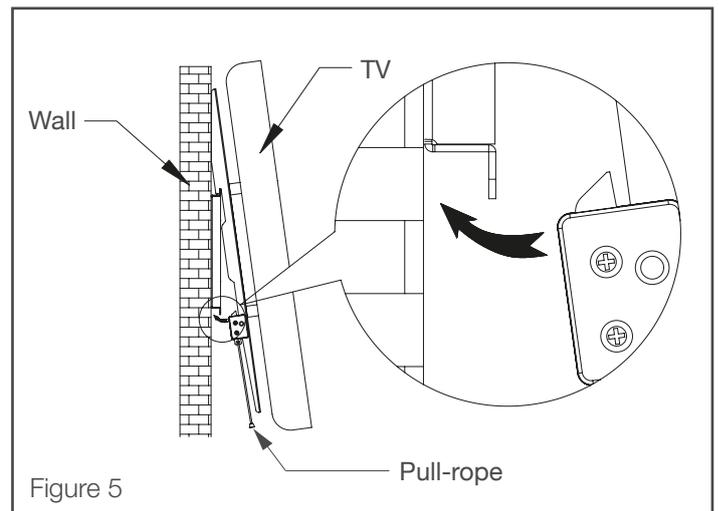

Figure 5
3. Slowly lower the bottom of the TV until the bottom of the mounting arm locks into the bottom of the wall plate. This will help ensure that your TV does not fall off your wall plate during use (see Figure 5).